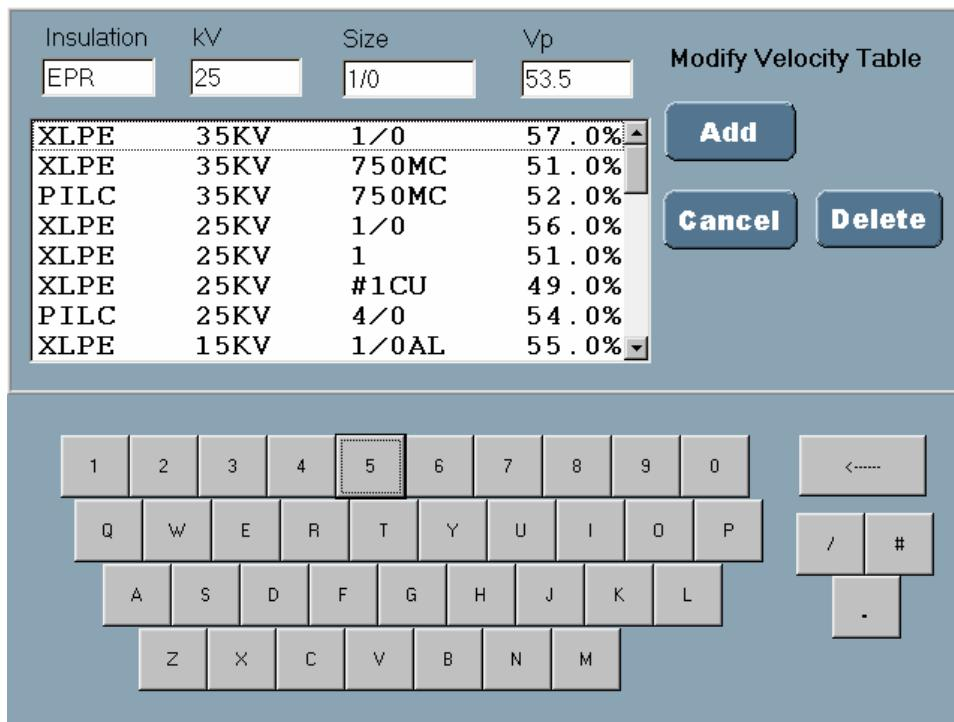

Figure 6-22 Modify Velocity Table screen
Use the Modify Velocity Table screen (Figure 6-22) to add or delete cable descriptions and their corresponding velocities to the selections shown in the Velocity Table Screen (Figure 6-21).
Display the Delete screen by pressing **Delete** on the Modify Velocity Table screen (Figure 6-22).
- To cancel the delete request and return to the Modify Velocity Table screen (Figure 6-22), press **Cancel**.